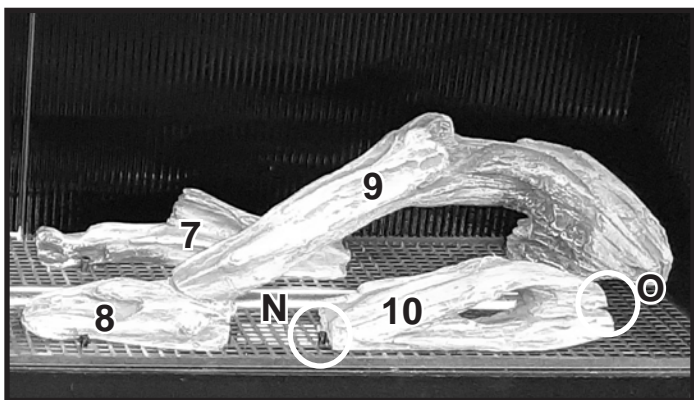

Figure 11 Install Log #10
**Log #10:** Place the left side of Log #10 against the left log pin (N). Pivot the right side of the log backward until it contacts the rear log pin (O). See Figure 11.